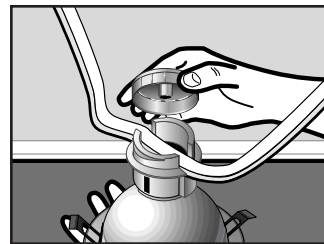

Figure 4
2. Connect cable to the fixtures by placing the cable into the fixture Top and screw cap on tightly (Fig. 4).